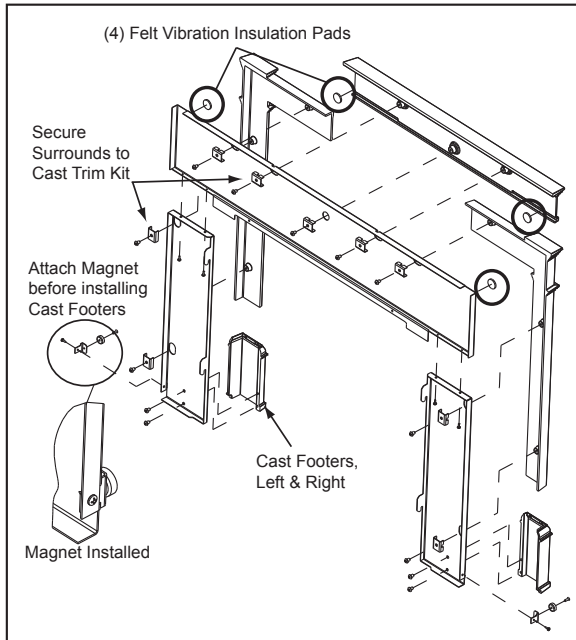

Figure 23.1
1. Place the peel and stick round felt vibration insulation pads on the front side in each corner of the top metal piece and on the back side in each corner of the top cast piece. **Figure 23.1 on page 23**
2. Install the left log first and then the right log. **Figure 23.1**